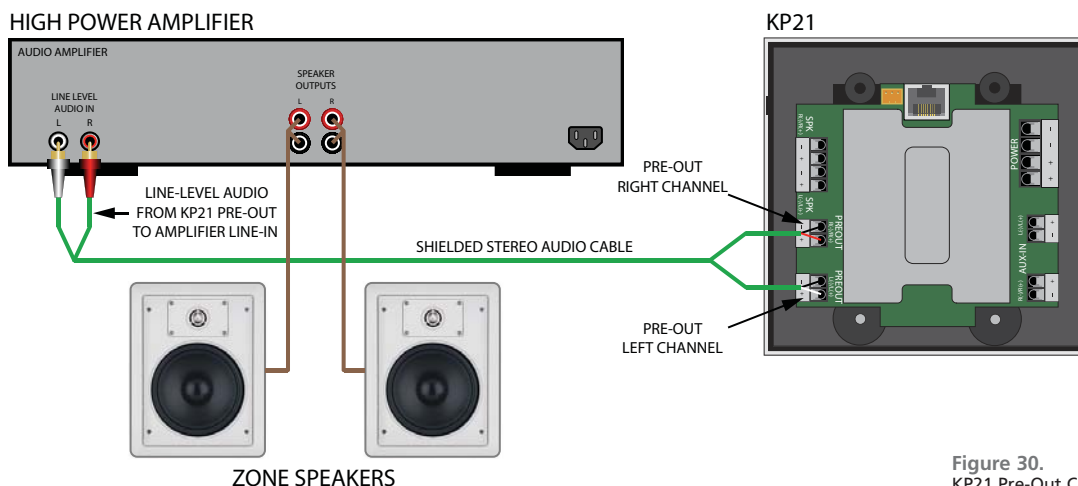

Figure 30.
2. Insert the twisted ends into the appropriate slots on the **R+/R-** and **L+/L-** **Pre-Out Terminals** 26 27 on the KP21 rear panel, as shown in **Figure 30**, and tighten with a small-blade screwdriver. Pull the wire slightly to confirm connection.
4. Connect to the amplifier's Left and Right line-level audio inputs, as shown in **Figure 30**.